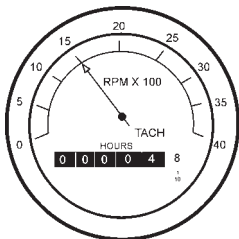

Figure 26. Engine Tachometer
10. While monitoring the tachometer, (Figure 26) use the Engine Throttle Control to set the engine speed to 2550 RPM by following steps 10A-10C.